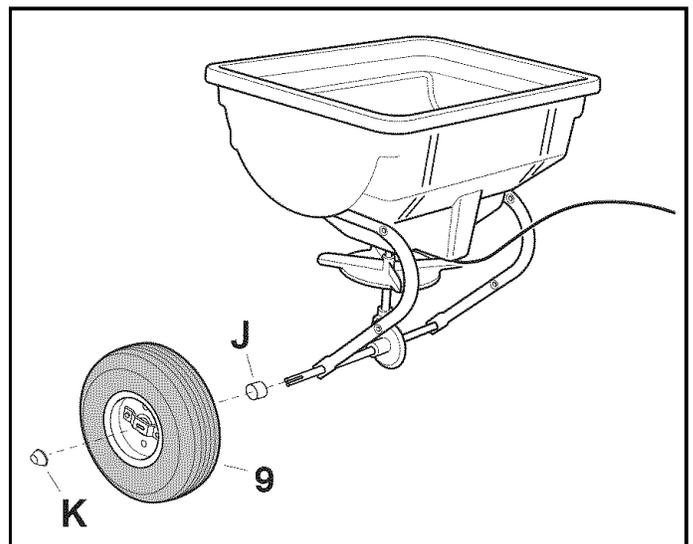

FIGURE 4
- Attach the drive wheel (9) to the right (indented) side of the axle. Secure the wheel in place with a hub cap (K). See figure 4.